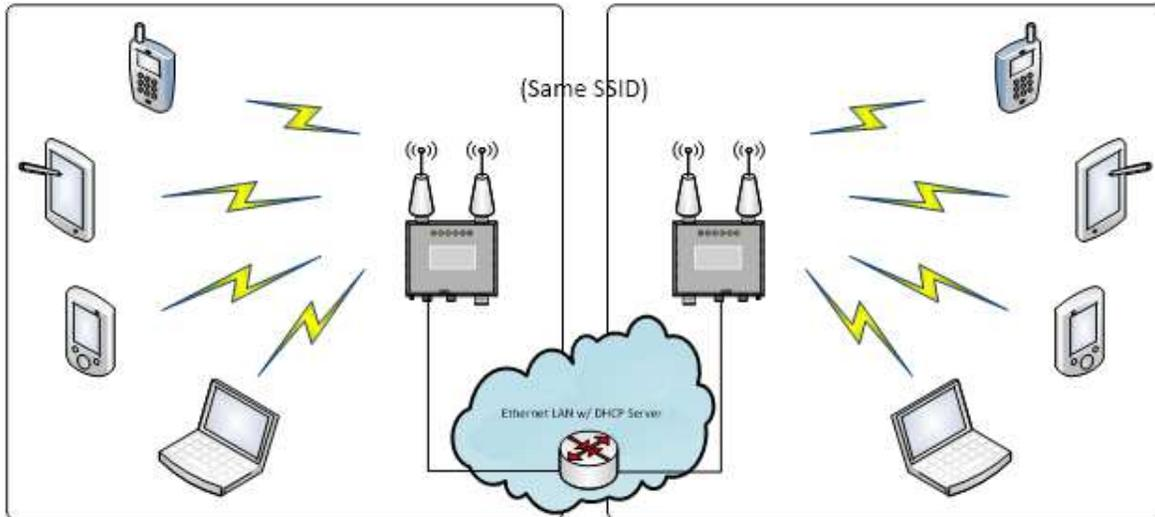

Figure 10: Multiple APs Connected to an Existing Ethernet Network with DHCP Server
- a) Integrated AP networks are the most prevalent topology choice. In this topology, multiple APs (Figure 10) are connected to a wired network and operate off of that network's Dynamic Host Configuration Protocol (DHCP) server to provide a wider coverage area for wireless devices, enabling the devices to "roam" freely about the entire site. The APs must use the same SSID.